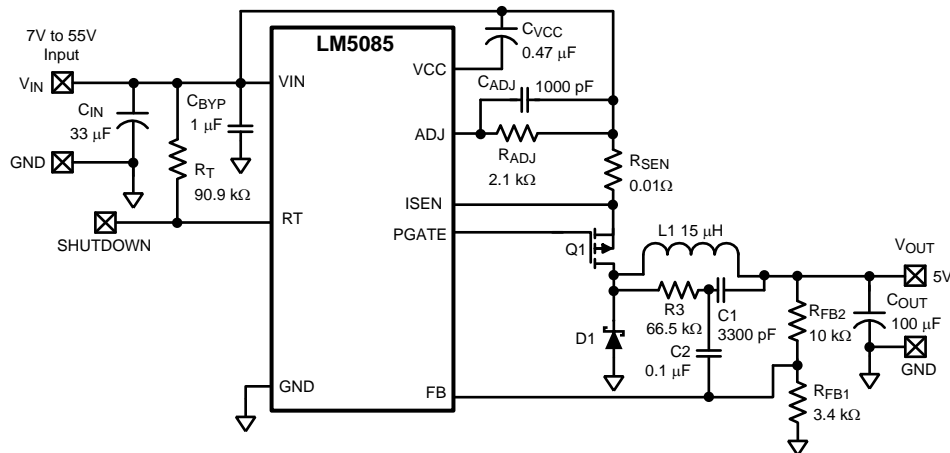

Figure 25. Example Circuit
The final circuit is shown in Figure 25, and its performance is presented in Figure 29 through Figure 32.
The minimum ripple configuration employing C1, C2, and R3 in Figure 25 results in a low ripple amplitude at VOUT determined mainly by the characteristics of the output capacitor and the ripple current in L1. This configuration allows multiple ceramic capacitors to be used for VOUT if the output voltage is provided to several places on the PC board. However, if a slightly higher level of ripple at VOUT is acceptable in the application, and distributed capacitance is not used, the ripple required for the FB comparator pin can be generated with fewer external components using the circuits shown below.
**a) Reduced ripple configuration:** In Figure 27, R3, C1 and C2 are removed (compared to Figure 25). A low value resistor (R4) is added in series with COUT, and a capacitor (Cff) is added across RFB2. Ripple is generated at VOUT by the inductor ripple current flowing through R4, and that ripple voltage is passed to the FB pin via Cff. The ripple at VOUT can be set as low as 25 mVp-p since it is not attenuated by RFB2 and RFB1. The minimum value for R4 is calculated from:
(Circuit of Figure 25)